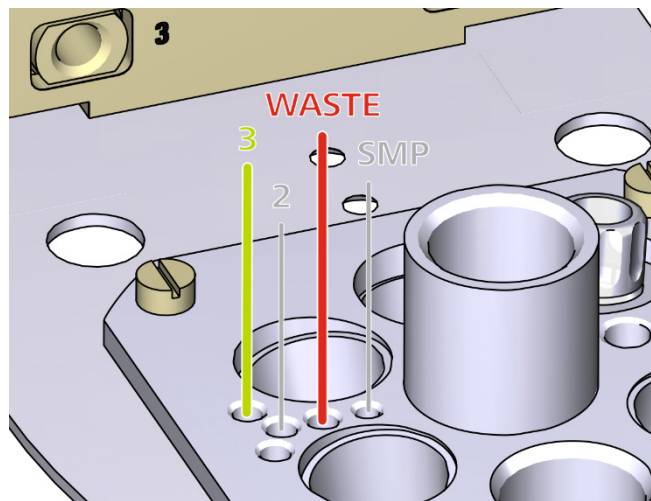

Fig. 5: Recommended draining and rinsing tube positions on the measuring head
- The drain tubing (WASTE) should be put through the rightmost of the four equally sized holes on the left side (see Fig. 5). This position is the most suitable for the measuring vessel for automated VA systems (6.1456.210).
- The rinse tubing (3) should be put through the uppermost of the four equally sized holes on the left side (see Fig. 5). Overlapping with the further installed tubes can be minimized this way.